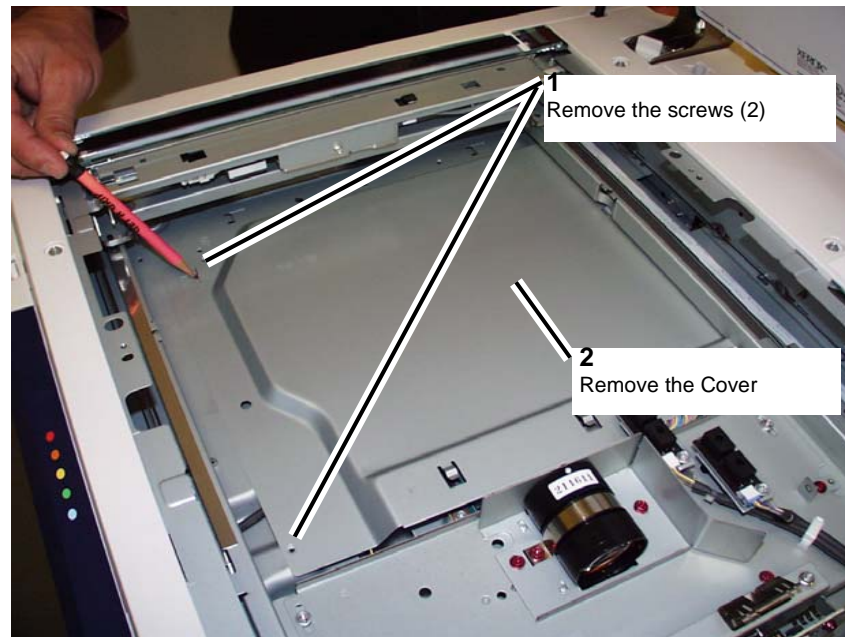

Figure 5 Removing the IPS Cover
7. Remove the IPS PWB Cover. (Figure 5)